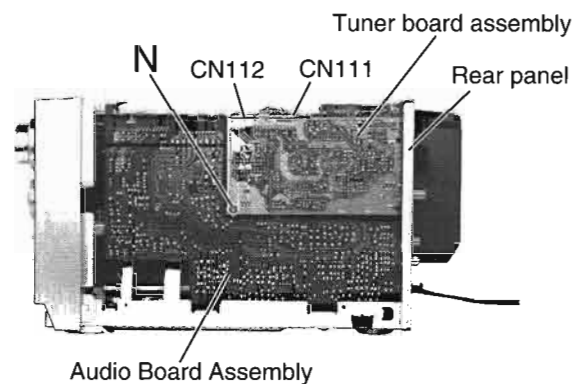

Fig.26
5. Remove the screw N attaching the audio board assembly.(Refer to Fig.26)